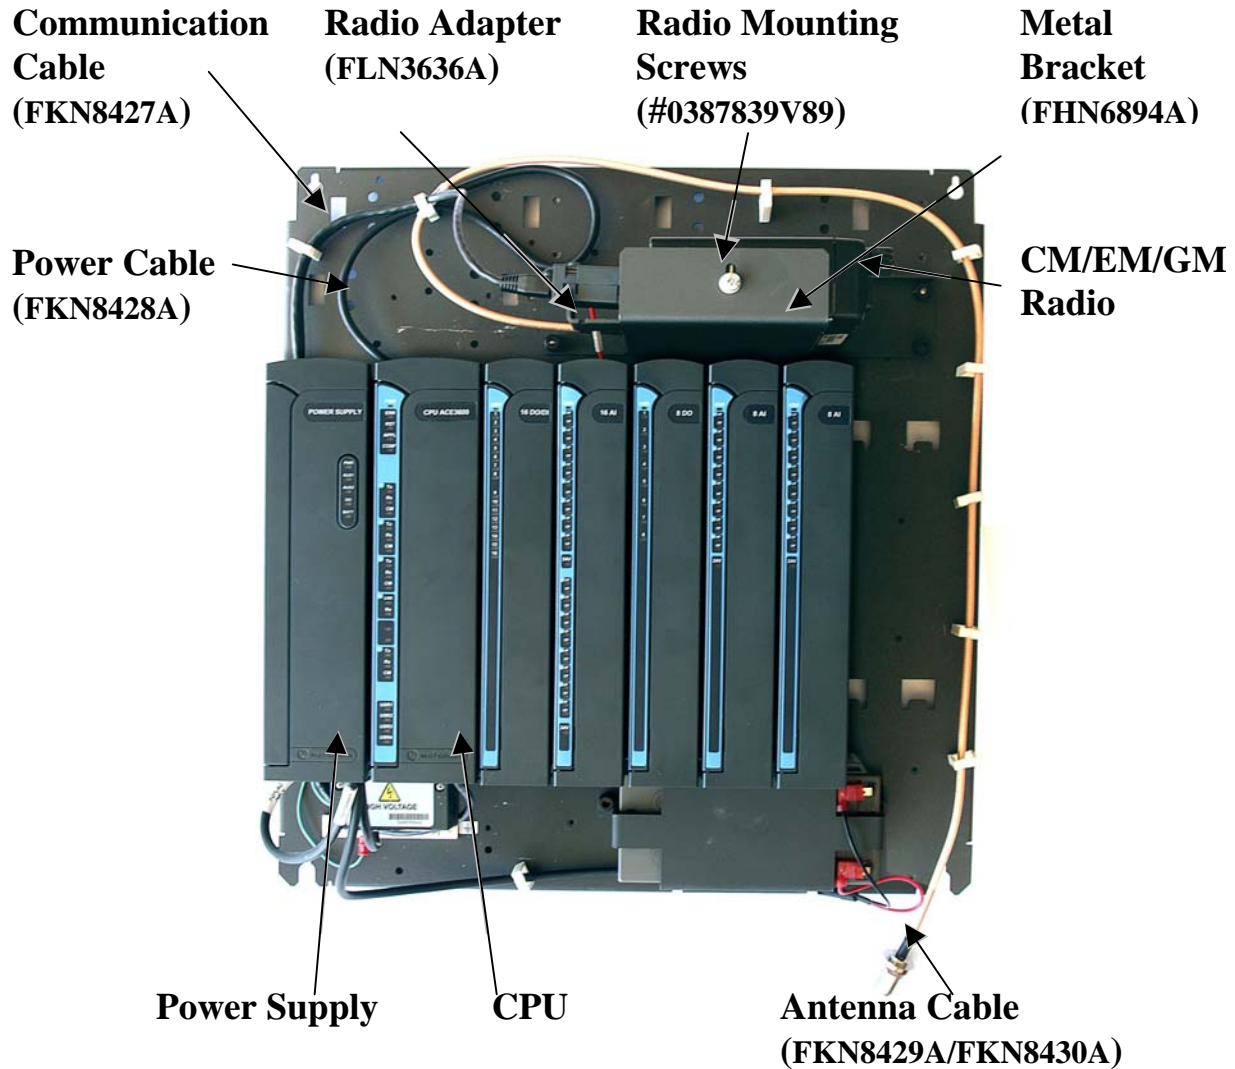

Figure 13-35 CM/EM/GM Radio Installed on ACE3600 Chassis
3. Connect the power cable (FKN8428A) to the radio's power connector. (See Figure 13-33 and Figure 13-34.) Connect the other end of the power cable to the AUX1A or AUX1B connector on the ACE3600 RTU Power Supply unit. (See Figure 13-35.)
5. Mount the CM/EM/GM radio onto the metal bracket (#0789422V45) using the two supplied radio mounting screws from kit FHN6894A, # 0387839V89 on the top and bottom of the radio. (See Figure 13-33, Figure 13-34 and Figure 13-35.)
6. Connect the antenna cable (FKN8429A/FKN8430A\*) to the antenna connector on the radio and to the opening on the bottom of the ACE3600 housing using the four supplied screws. (See Figure 13-34 and.) Mount the complex (bracket and radio) on the RTU chassis above the CPU and I/O modules, using the four built-in screws. (See Figure 13-35.)